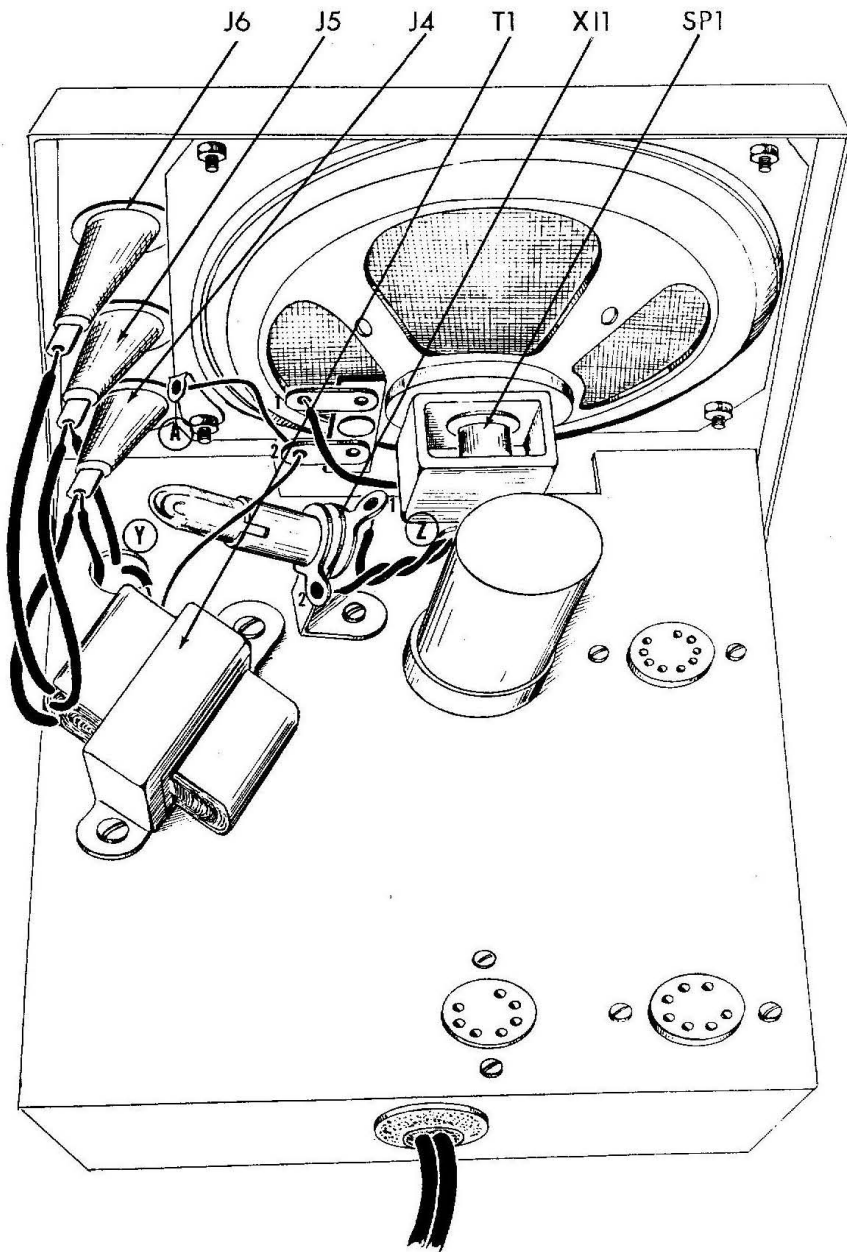

Fig. 3
4. ( ) Fig. 3. Connect a 2" piece of bare wire covered with a 1 1/2" piece of spaghetti from SP1-2(C) to ground lug "A" (S).
1. ( ) Fig. 3. Cut the upper enameled lead from the output transformer, T1, to 2". Scrape off about 1/4" of the enamel insulation from the end of the wire and tin with some solder. Connect to SP1-2 (S).
2. ( ) Fig. 3. Connect one end of a 5" piece of yellow wire to X11-1 (S) and one end of a 5" piece of brown wire to X11-2 (S). Twist the leads together and push through hole "Z".
3. ( ) Fig. 3. Cut the lower enameled lead from the output transformer, T1, to 3" and cover with a 2 3/4" piece of spaghetti. Scrape off about 1/4" of the enamel insulation from the end of the wire and tin with some solder. Push this lead through hole "Y".
4. ( ) Fig. 3. On output transformer, T1, cut the brown lead to 3 1/2", the red lead to 2" and the blue lead to 1 3/4". Connect the blue lead to J4 (C), the red lead to J5 (C) and the brown lead to J6 (S).
5. ( ) Fig. 3. Connect one end of an 8" piece of blue wire to J4 (S). Push the other end through hole "Y".
6. ( ) Fig. 3. Connect one end of a 5" piece of red wire to J5 (S). Push the other end through hole "Y".
7. ( ) Fig. 3. Connect one end of a 5" piece of blue wire to SP1-1 (S). Push the other end through hole "Z".